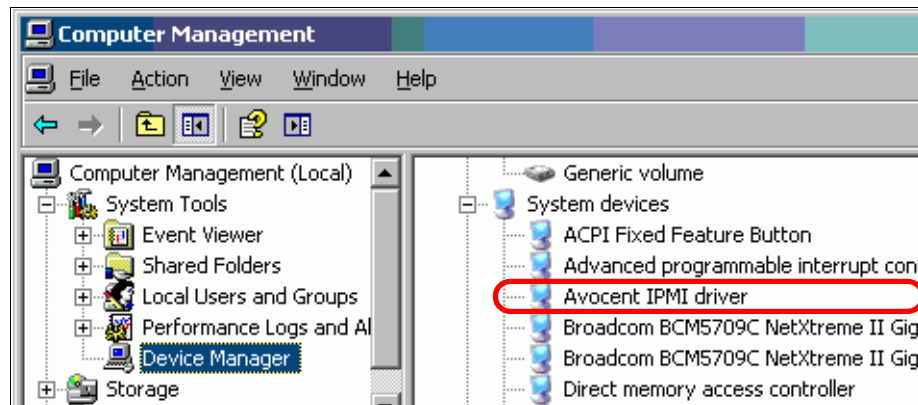

Figure 6-7 Device Manager showing list of system devices
4. After the reboot open Device Manager again. Enable **Show hidden devices** in the submenu **View**. The ISMP device driver is listed in the section System devices as shown in Figure 6-7.